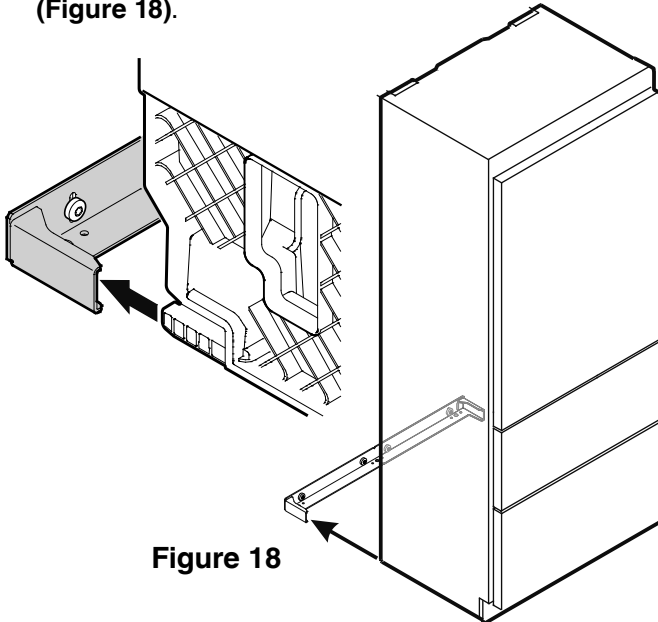

Figure 18
4. Move the appliance slowly into the recess until the appliance back slides into the anti tipping bracket (Figure 18).